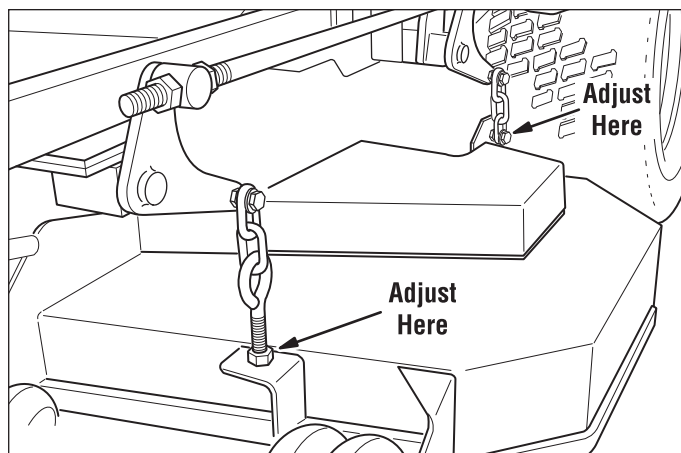

Figure 24. Hanger Chain Adjustment
7. Adjust the front eyebolts until the chains are tight and the deck is still resting on the 2 x 4's. Tighten jam nuts. See Figure 24.
8. Loosen the nuts and allow the rear of the deck to rest on the 2 x 4's. Slide the chains in the slots until the chains are tight and tighten the nuts. See Figure 24.